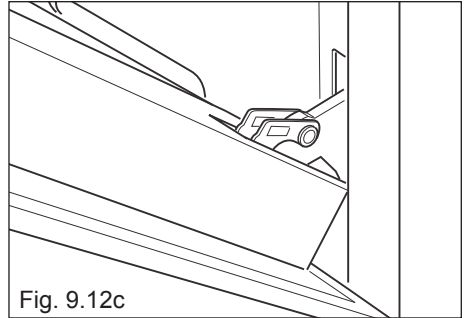

Fig. 9.12c
1. Make sure the door is locked open (see fig. 9.12c).